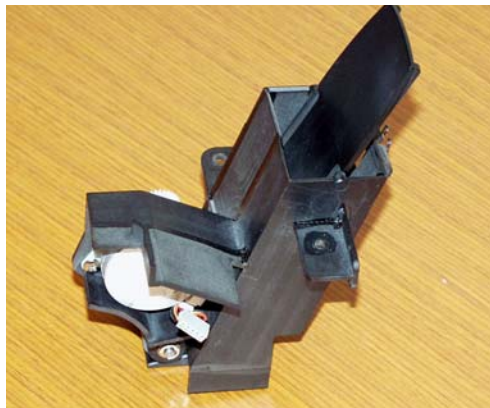

Figure 5-54 Tape Feed Motor
2. Remove two screws securing motor. See Figure 5-54 below.